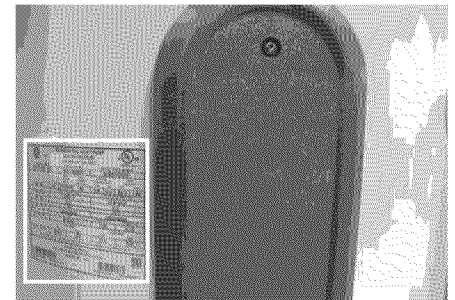

Figure 23 - The water heater’s electrical requirements can be determined from the data plate.
- 3 This water heater requires a 240/208 VAC single phase 30 amp power supply, at 60Hz. Check the water heater’s data plate (see Figure 23 on page 17) and ensure that the home’s voltage, wiring size (ampacity) and circuit breaker rating and type are correct for this water heater. Refer to the wiring diagram located on the water heater for the correct electrical connections. Ensure that wire sizes, type, and connections comply with all applicable local codes. In the absence of local codes, follow NFPA-70 and the current edition of the National Electric Code (NEC).